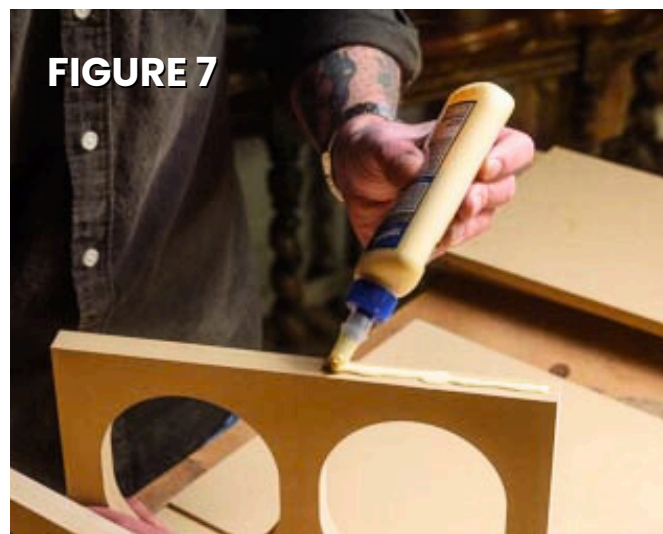

FIGURE 7
6. Apply wood glue to mating seams one at a time and assemble using the steps above as a guide (figure 7).